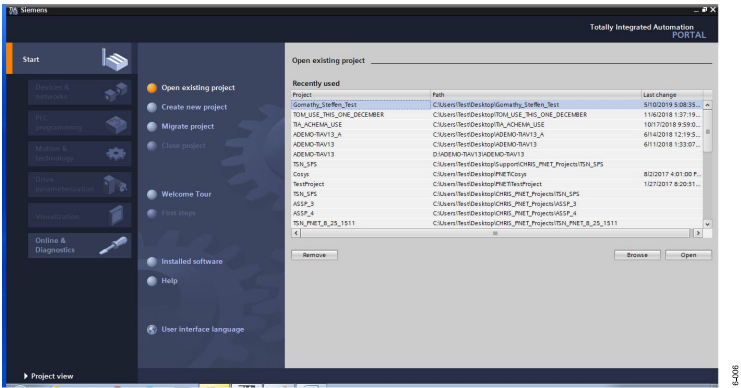

Figure 69. New Project Wizard Window
1. Double-click to start the TIA portal to display the new project wizard window (see Figure 69).